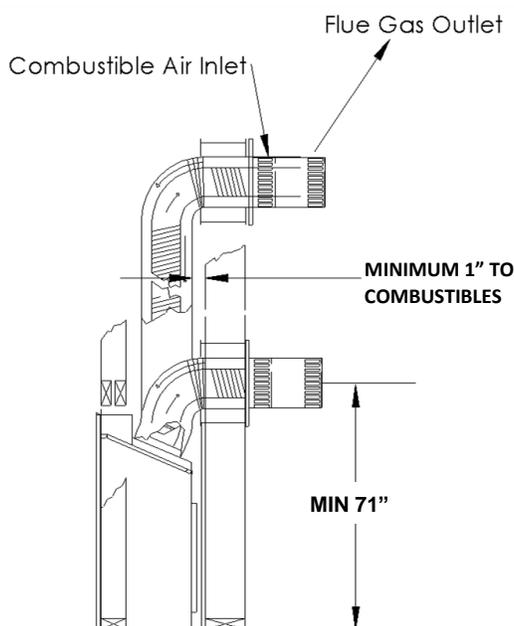

Figure 1
Place the spring spaces provided approximately every two feet to stabilize 5" flex in the center of 8" flex. When forming bends place spring in bend or before and after. (See Fig. 1). Horizontal runs require support metal straps every 2 feet. In offset installation support straps should be used to stabilize pipe.
Expand 5" and 8" flex pipe to the point that the 8" protrudes approximately 2 to 3 inches past outer wall and the 5" flex protrudes approximately 2 to 3 inches past the 8" flex. (See Fig. 1). Attach the 5" pipe to the termination first and secure with sealant and screws then attach the 8" flex to the termination with caulking and screws. Termination may then be moved back to the outer wall and attached to home screwing into the framing. Silicone around termination to waterproof. If siding shield is going to be used attach this using same attaching hole as the top of termination after termination has been caulked for water proofing.
- To install wall thimble center over 12" x 12" (inch) framing from both sides of wall and secure. Route flex vent pipe through wall thimble (See Figure 1).
- Support horizontal pipes every two (2) feet (61 cm) with metal strap bands. Re-check fireplace to make sure it is levelled and properly positioned and secured.